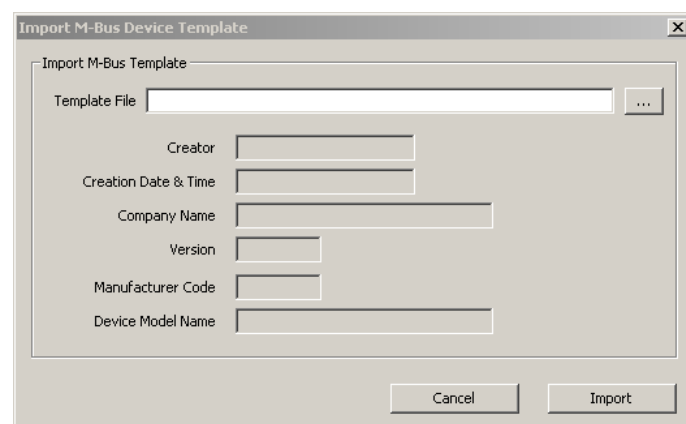

Figure 176: Import M-Bus Device Template dialog.
2. This opens the **Import M-Bus Device Template** dialog shown in Figure 176.